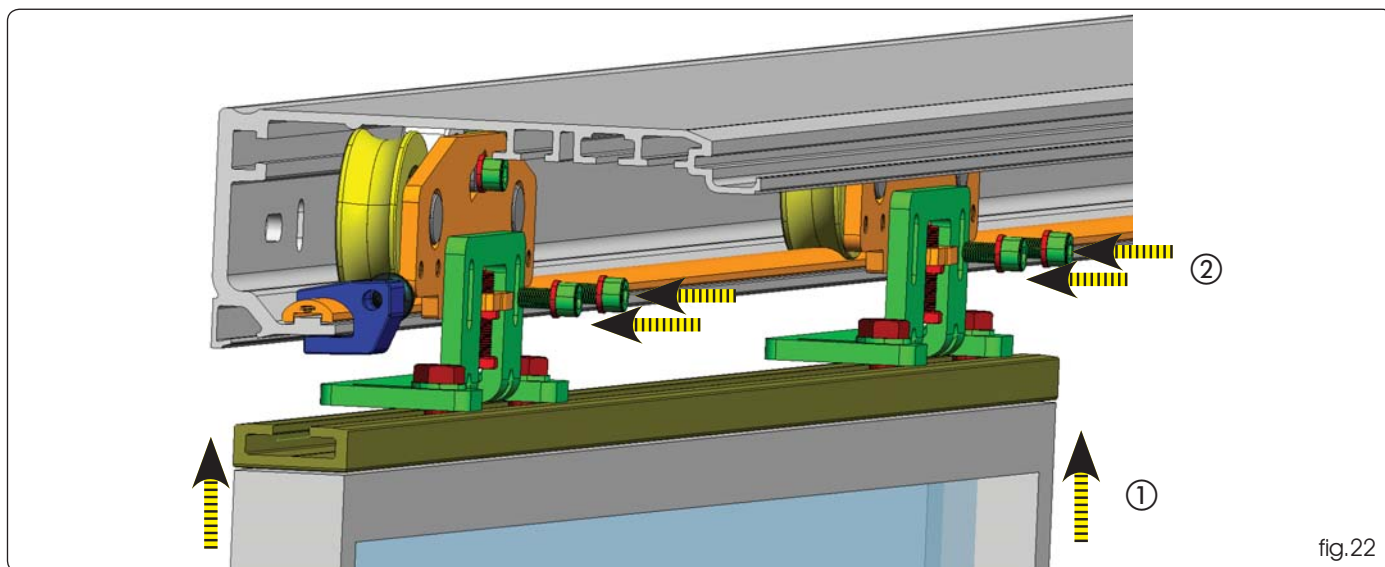

fig.22
Lift the leaf – carriage lower plate assembled unit to the height of the carriage upper plate. fig 22 ref. ①
Secure the 2 parts of the carriage using the 2 screws M6 fig 22 ref. ②